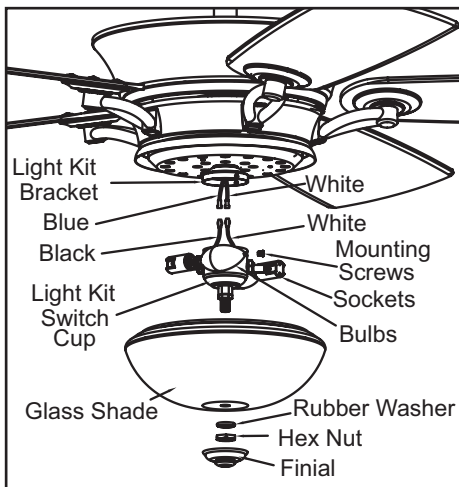

Figure 12
2. Connect the wires exiting the light kit bracket below the fan motor with the wires from the light kit switch cup, black to blue and white to white (Figure 12).
7. Raise the glass shade up against the light plate of the fan motor assembly. Place the rubber washer and then the hex nut removed in step 5. Firmly tighten the hex nut to hold the glass bowl in place (Figure 12).